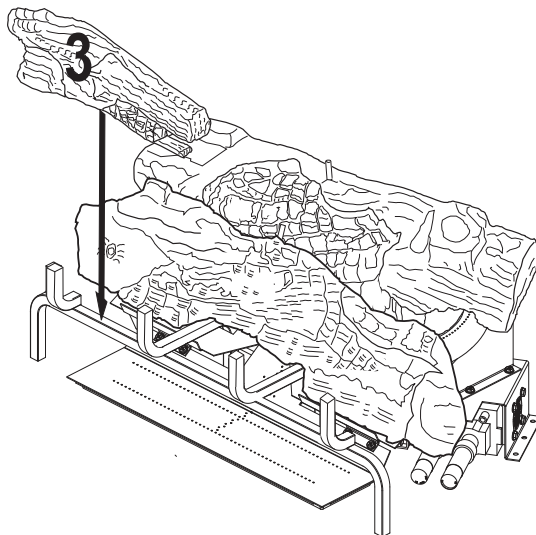

Figure 39 - Installing Log # 3
3. Place the front left log (#3) onto the base assembly between the middle log (#2) and the grate fingers. The back of the front left log (#3) will rest against the front of the middle log (#2). The notch at the end of the front left log (#3) will fit around the grate bar. See **Figure 39, Page 21**.